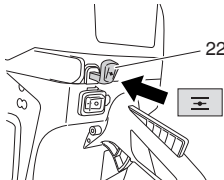

Fig. 27
7. When you hear first ignition, push the choke lever (22) fully to set it in the run position. (Fig. 27)